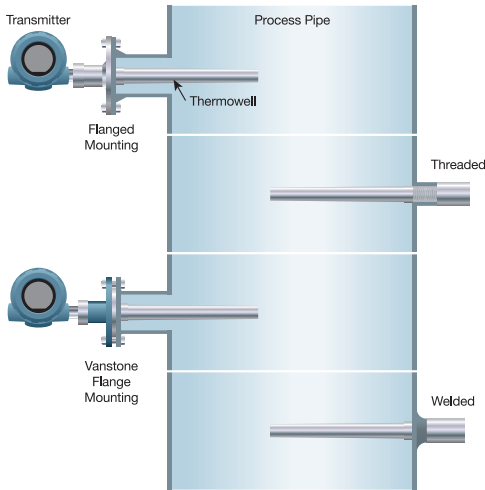

Figure 3.3.4a – Thermowell Mounting Methods
- Thermowell Process connection See Figure 3.3.4a